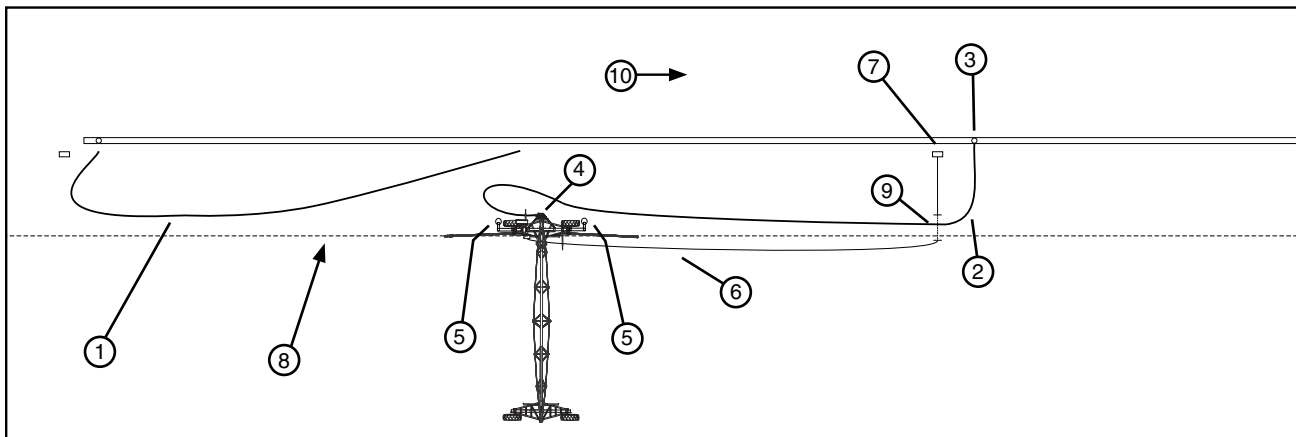

Figure 48-1 1. First Hose 4. Swivel Inlet 7. Power Pedestal 10. Direction of Travel
- If more than one hose is being used, disconnect first hose from swivel inlet. Connect second hose to next pipeline shut off valve, position second hose, connect and secure to swivel inlet. See figure 48-1.
- c) Position the electric cord far enough away from the hose, so that the hose will not drag over it. To prevent interference between the electric cord, cart tires, furrow guidance system and hose, bury the electric cord in the area where interference will occur or when applicable, position the electric cord over the top of hose. See figure 48-1.